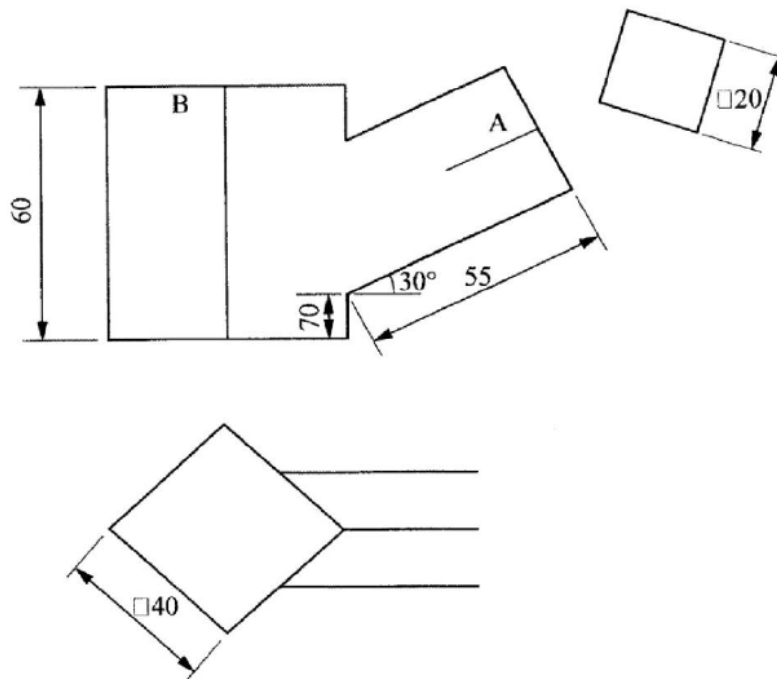

Figure 9
13. **Figure 9** shows two intersecting square tubes A and B drawn in first angle projection.